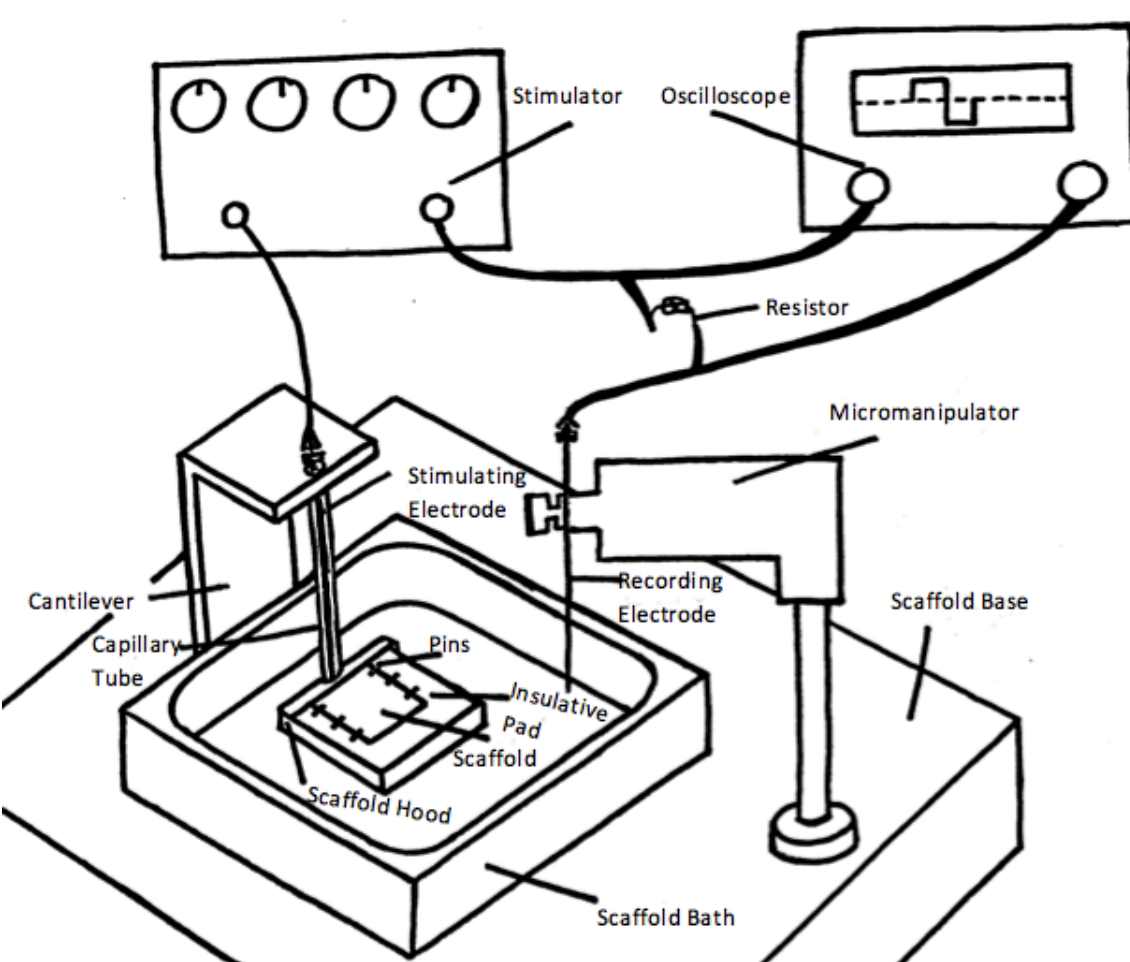

Figure 1. Setup of Device
- The entire Scaffold Point Stimulation Device is illustrated in Figure 1